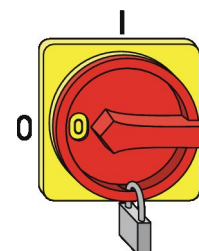

Fig. 51: Securing the mains isolator
- 4. ▶ ■ Secure the mains isolator with a padlock ( Fig. 51 ).